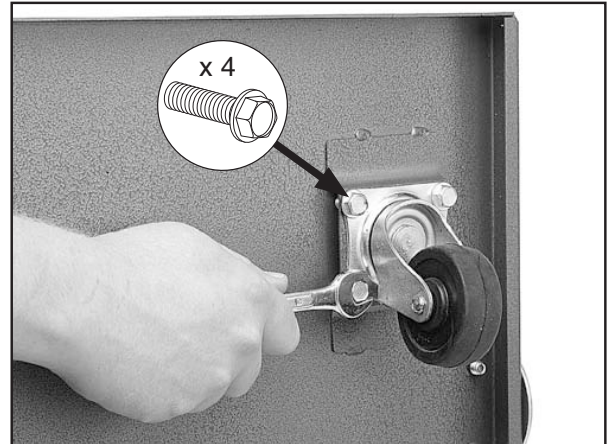

Figure 26. Mounting casters to base.
1. Position the base plate upside down and mount the casters to the base plate using (16) 5/16"-18 x 1/2" flange bolts, as shown in **Figure 26**.